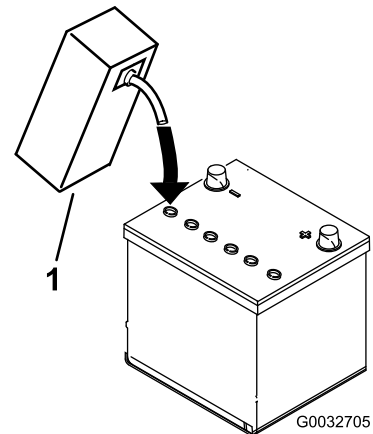

Figure 7
- Carefully fill each cell with electrolyte until the plates are covered with about 6 mm (1/4 inch) of fluid (Figure 7).
bring the electrolyte to within about 6 mm (1/4 inch) of the bottom of the fill well (Figure 7).